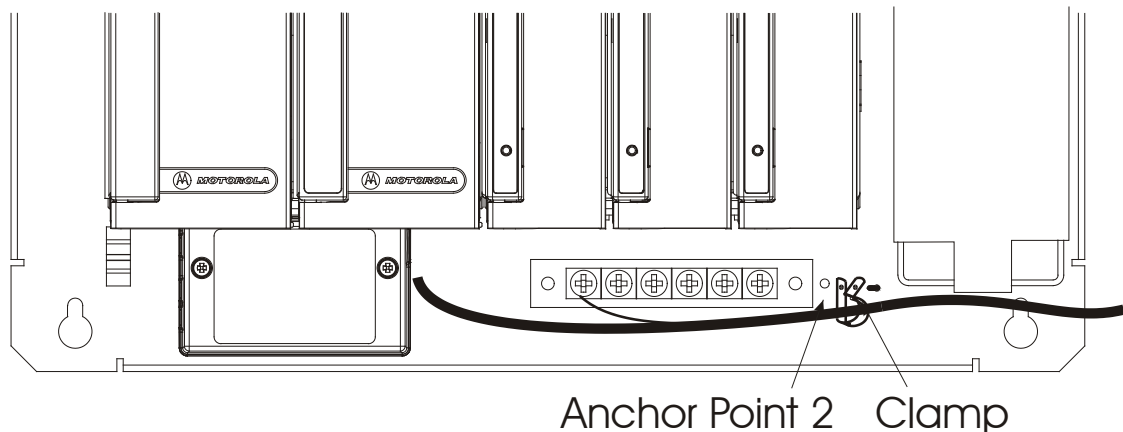

Figure 2-19 RTU on Metal Chassis – Cable Anchor Point 2
Anchor point 2 for all other units without housing (other than No I/O Slots) is near the unit's ground strip. (See Figure 2-19 below.)
- 2) If user-supplied cables are used, connect the ground wire(s) to the PGND pin(s) on the I/O module and to the grounding strip at the bottom of the RTU. (See grounding strip in Figure 2-19 above.)
to the grounding strip at the bottom of the RTU. (See grounding strip in Figure 2-19 above.)